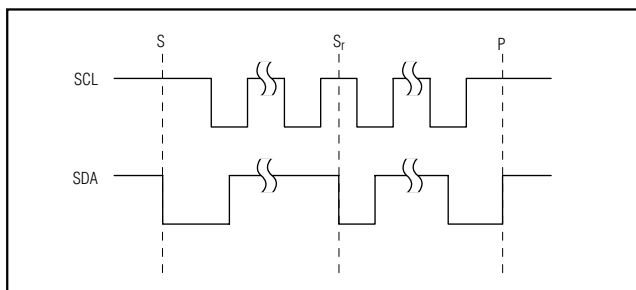

Figure 2. START and STOP Conditions
When the serial interface is inactive, SDA and SCL idle high. A master device initiates communication by issuing a START condition. A START condition is a high-to-low transition on SDA with SCL high. A STOP condition is a low-to-high transition on SDA, while SCL is high (Figure 2). A START condition from the master signals the beginning of a transmission to the MAX5841. The master terminates transmission by issuing a not acknowledge followed by a STOP condition (see *Acknowledge Bit (ACK)*). The STOP condition frees the bus. If a repeated START condition (SR) is generated instead of a STOP condition, the bus remains active. When a STOP condition or incorrect address is detected, the MAX5841 internally disconnects SCL from the serial interface until the next START condition, minimizing digital noise and feedthrough.